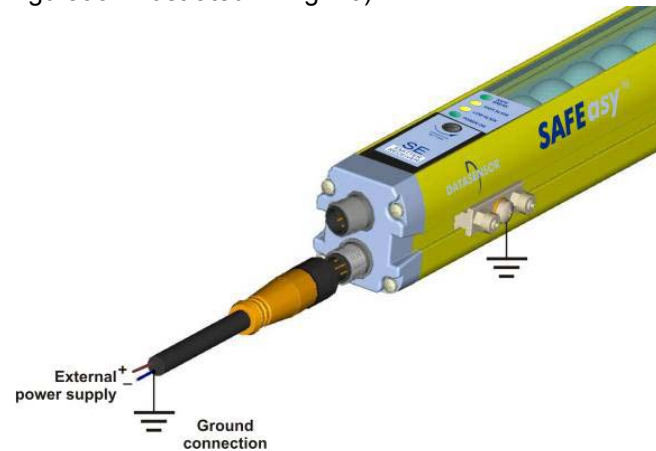

Fig. 20
- It is possible to connect to ground the device housing using the mechanical part supplied for ground connection (refer to configuration illustrated in Fig. 20).